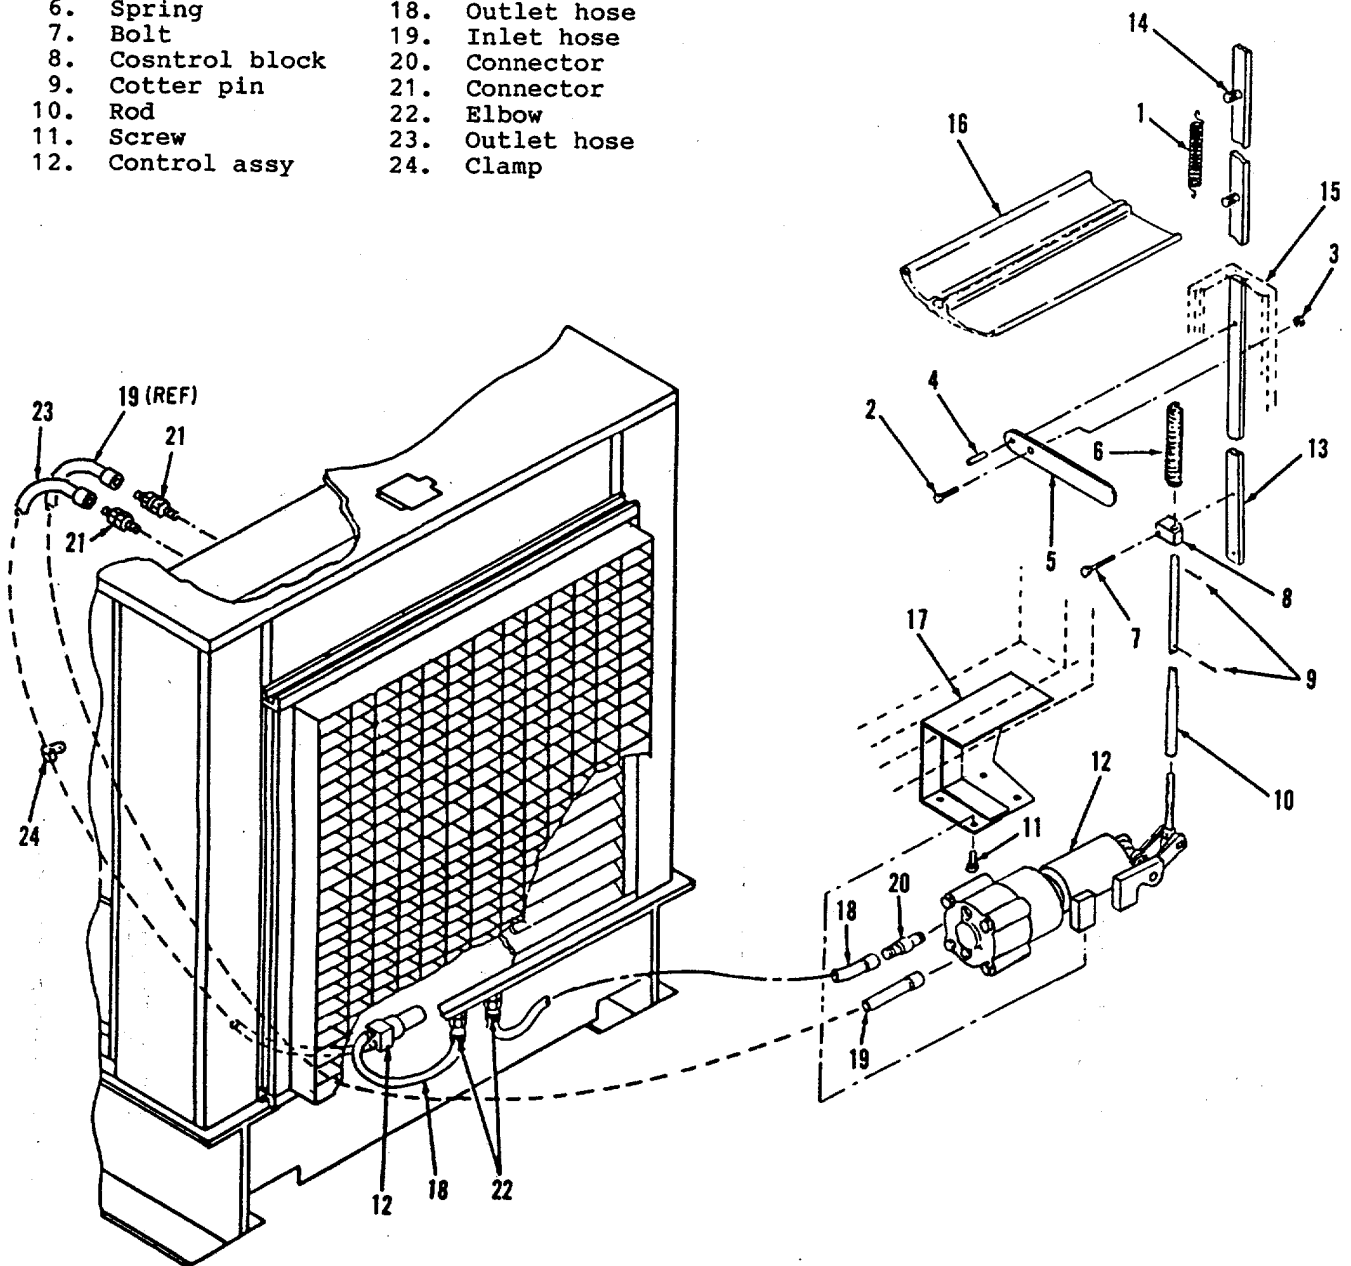
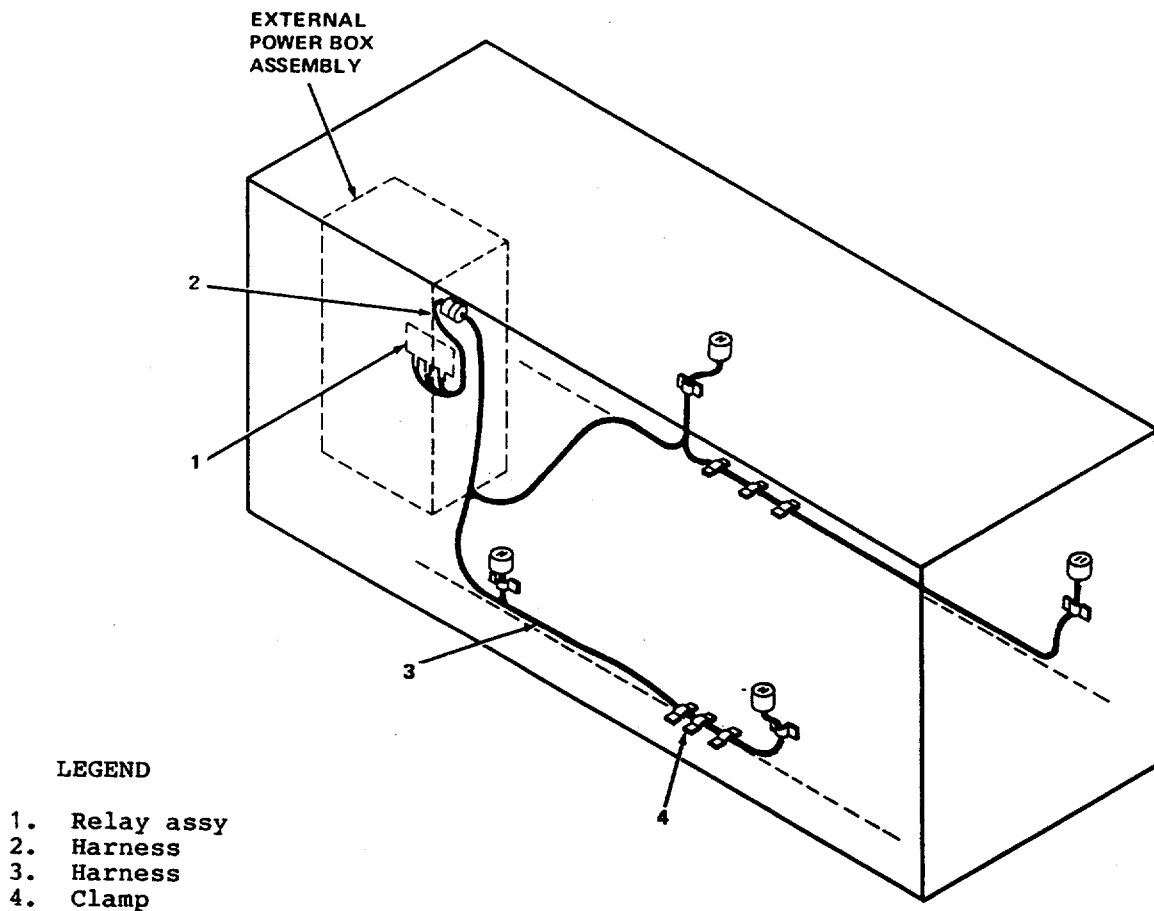

Figure 15-22. Housing Kit, Shutter Assembly
Figure 15-23. Housing Kit Wiring
- g. Shutter Assembly. Refer to figure 15-22 and install as follows:
- (1) Attach control assembly (12) to shutter frame (17) with four screws (11).
- (2) Attach rod (10) to control (12) with cotter pin (9).
- (3) Mount studs (14) in control bar (13) and install control bar (13) in angle (15).
- (4) Mount control block (8) to bar (13) with bolt (7).
- (5) Attach lever (5) to angle (15) with bolt (2) and nut (3).
- (6) Install pin (4) in lever (5) and control bar (13).
- (7) Assemble vanes (16).
- (8) Install cotter pins (9), assemble springs (1 and 6).
- (9) Install connectors (20) in control (12) then connect hoses (19 and 20).
- (10) Connect other end of hose (18) to elbow (22). Connect other end of hose (19) to connector (21). Install two hose clamps (17A) using existing hardware.
- (11) Fill radiator with coolant in accordance with paragraph 13 b, Operator and Organizational Maintenance manual.
- h. Electrical Harness. See figures 15-23 and fold outs FO-14 and FO-15. The electrical harness assembly for the housing kit louver control consists of two harnesses and a relay assembly. The relay assembly is mounted in the external power box with a harness connecting it to the other terminal boards in the external power box, and an electrical connector to be installed in an existing opening in the external power box enclosure. The other harness connects from the external power box to louver actuators and their switches and is secured with clamps using existing hardware. Figure 15-23 is the wiring harness installation and FO14 and FO-15 are the wiring information. Install as follows:
- (1) Install the relay assembly (1) in the external power box as specified in paragraph 15-25 b, step (13).
- (2) On external power box assembly enclosure wall, remove plate covering existing hole (next to electrical connectors) and install connector J32 of harness (2) on wall.
- (3) Refer to figure 15-23 and connect this harness as shown to terminal board TB303 on relay assembly and terminal boards TB202 and TB203 on external power box assembly rear wall.
- (4) Install harness (3) with sixteen clamps (4) using existing hardware.
- (5) Connect Jacks and connectors to the respective actuators and switches located on the four door and shutter assemblies. Connect P32 to connector installed in step (2).
a. Electrical Harness. See figures 15-23 and fold outs FO-14 and FO-15.
- (1) Disconnect jacks and connectors from louver actuators and switches.
- (2) Remove all clamps (4) securing harness (3) to housing kit structure.
- (3) Disconnect J32 from external power box assembly. Remove harness.
- (4) Disconnect harness (2) (in external power box assembly) from TB303 on relay assembly (1) and TB202 and TB203 in the rear wall of external power box assembly.
- (5) Remove relay assembly (1) from rear wall of external power box assembly. Restore existing hardware.
- (6) Remove connector J32 on harness (2) from wall of external power box assembly enclosure.
- (7) Cover hole (created by removing connector J32) with plate.
- (8) Remove harness (2).
b. Shutter Assembly. See figure 15-22 and remove shutter assembly as follows:
- (2) Disconnect hoses (18, 19, 25, Figure 15-22) from actuators (12).